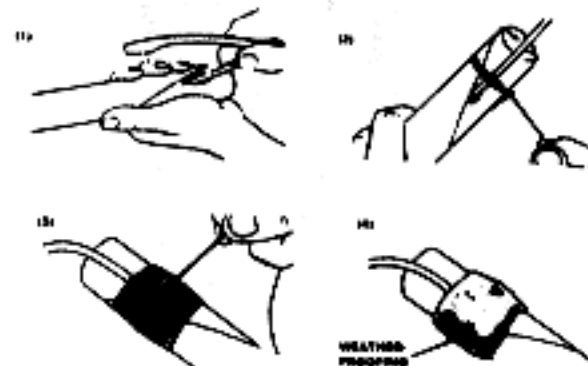

Figure 15-14. Nonelectric side priming of dynamite
(3) A third is the side priming method (figure 15-14). Follow these steps: